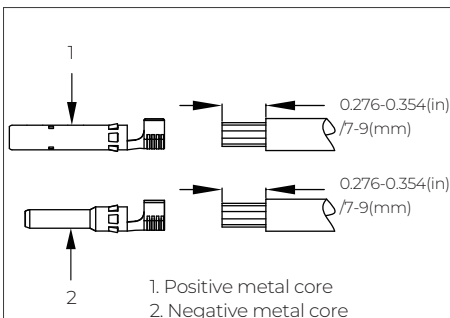

Figure 6-12-1
Step 2: Use wire strippers to peel off the insulation layer of the positive and negative power cables. For the specific stripping length, refer to Fig. 6-12-1.